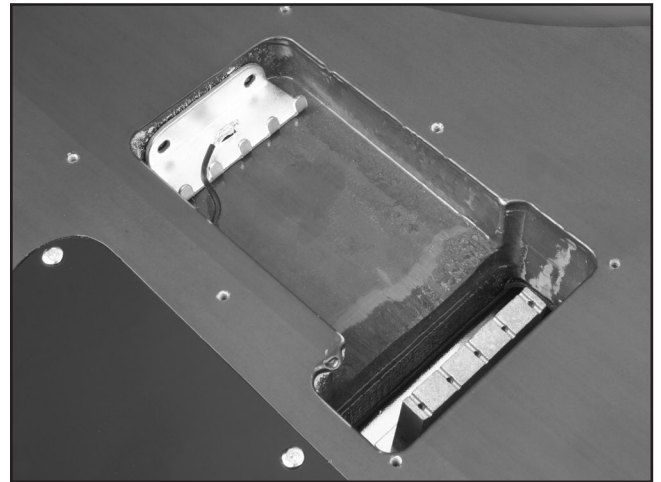

Figure 27. Spring claw placement.
3. Flip the guitar body over and place the spring claw in the cavity as shown in **Figure 27**.